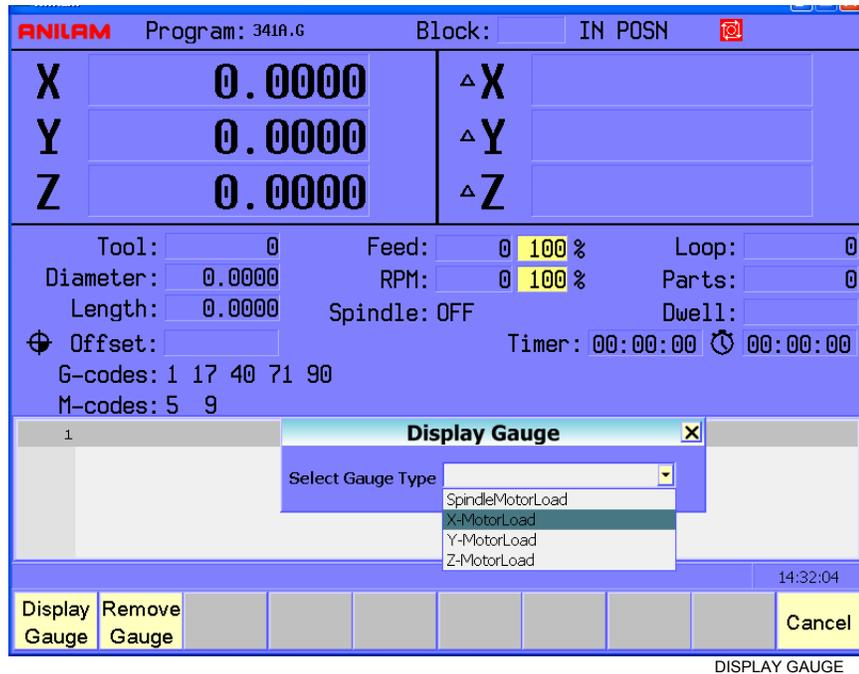

Figure 3-4, Display Gauge from SHIFT Manual Screen
- Press the **Display Gauge (F4)** soft key to display the Display Gauge screen (refer to **Figure 3-4**). Select the Gauge information that you want to display on the Manual screen: